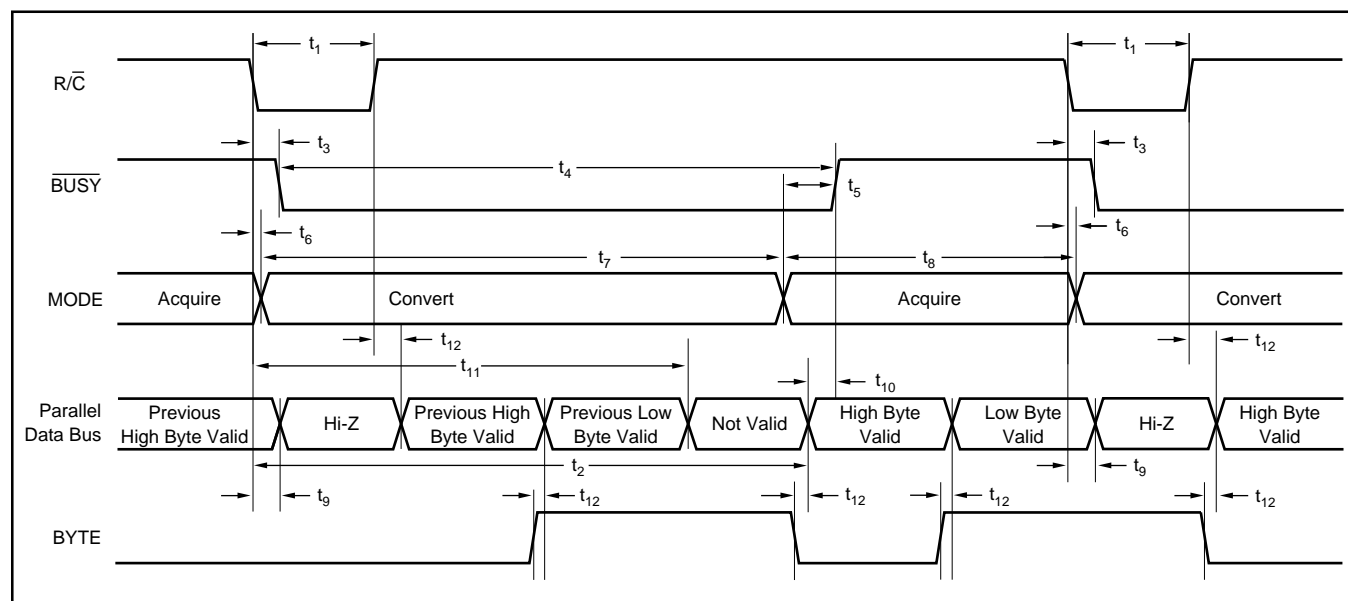

FIGURE 2. Conversion Timing with Parallel Output ( $\overline{\text{CS}}$  and  $\text{DATACLK}$  tied LOW,  $\overline{\text{EXT/INT}}$  tied HIGH).
The ADS7807 will begin tracking the input signal at the end of the conversion. Allowing 25µs between convert commands assures accurate acquisition of a new signal. Refer to Tables II and III for a summary of  $\overline{CS}$ ,  $R/\overline{C}$ , and  $\overline{BUSY}$  states, and Figures 2 through 6 for timing diagrams.
NOTE: (1) See Figures 2 and 3 for constraints on data valid from conversion 'n – 1'.
After conversion 'n' is completed and the output registers have been updated,  $\overline{\text{BUSY}}$  (pin 24) will go HIGH. Valid data from conversion 'n' will be available on D7-D0 (pins 9-13 and 15-17).  $\overline{\text{BUSY}}$  going high can be used to latch the data. Refer to Table V and Figures 2 and 3 for timing constraints.
After conversion 'n' has been initiated, valid data from conversion 'n - 1' can be read and will be valid up to  $12\mu\text{s}$  after the start of conversion 'n'. Do not attempt to read data beyond  $12\mu\text{s}$  after the start of conversion 'n' until  $\overline{\text{BUSY}}$  (pin 24) goes HIGH; this may result in reading invalid data. Refer to Table V and Figures 2 and 3 for timing constraints.